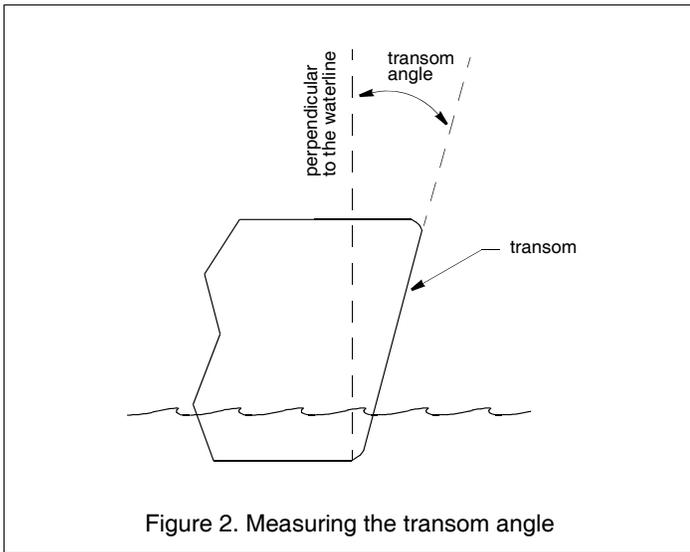

Figure 2. Measuring the transom angle
1. Measure the transom angle of the hull at the selected location using a digital level (see Figure 2).